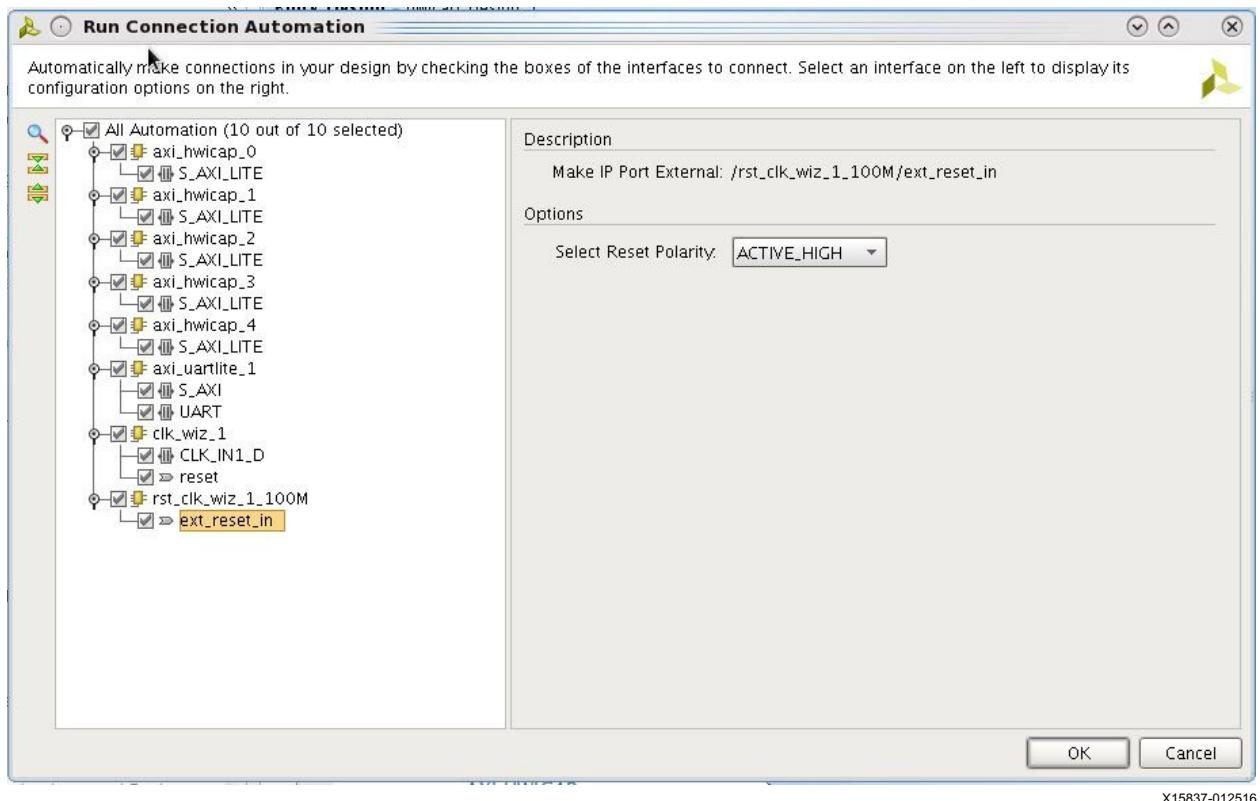

Figure 9: Connection Automation
12. Click to get the *Run Connection Automation* page and check the *All Automation* box (Figure 9). Select the *ext_reset_in* port for the *rst_clk_wiz* IP and change the polarity to ACTIVE_HIGH. Click OK.